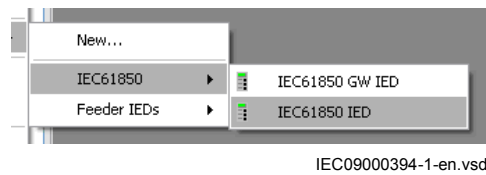

Figure 26: Create new generic device in SAB600 project
4. Create new generic device in SAB600 project, see Figure 26.